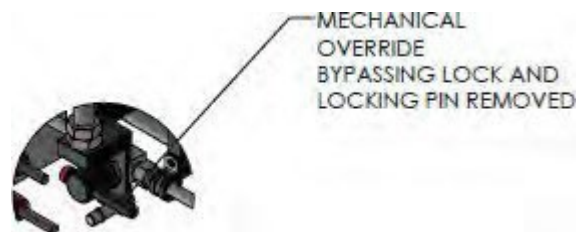

Figure 4
4. Open the bypass illustrated in figure 4 (handle inline with tubing).